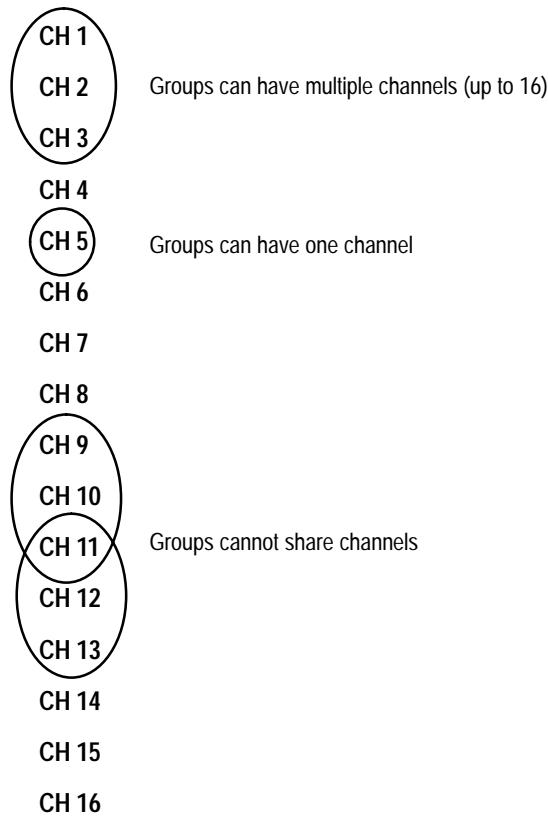

Figure 3-26: Groups—Valid and Invalid
*Groups contain one or up to sixteen channels.* You must assign a channel to a group for it to be displayed. See Figure 3-26.